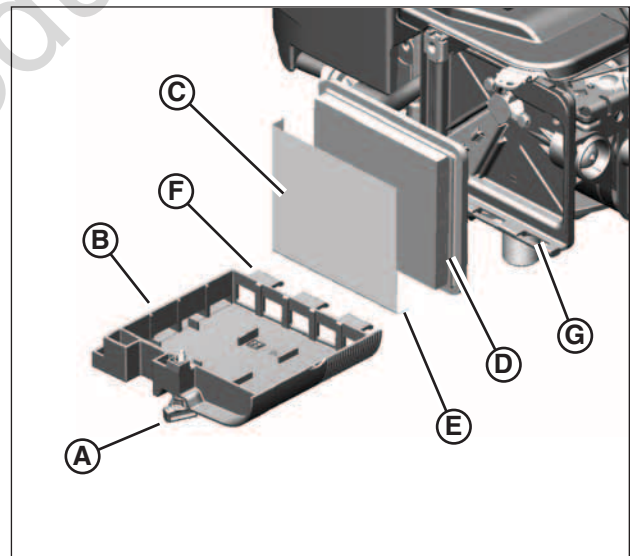

Figure 16: Air filter and pre-cleaner
1. Loosen the fastener (**A**, **Figure 16**) that holds the cover (**B**).